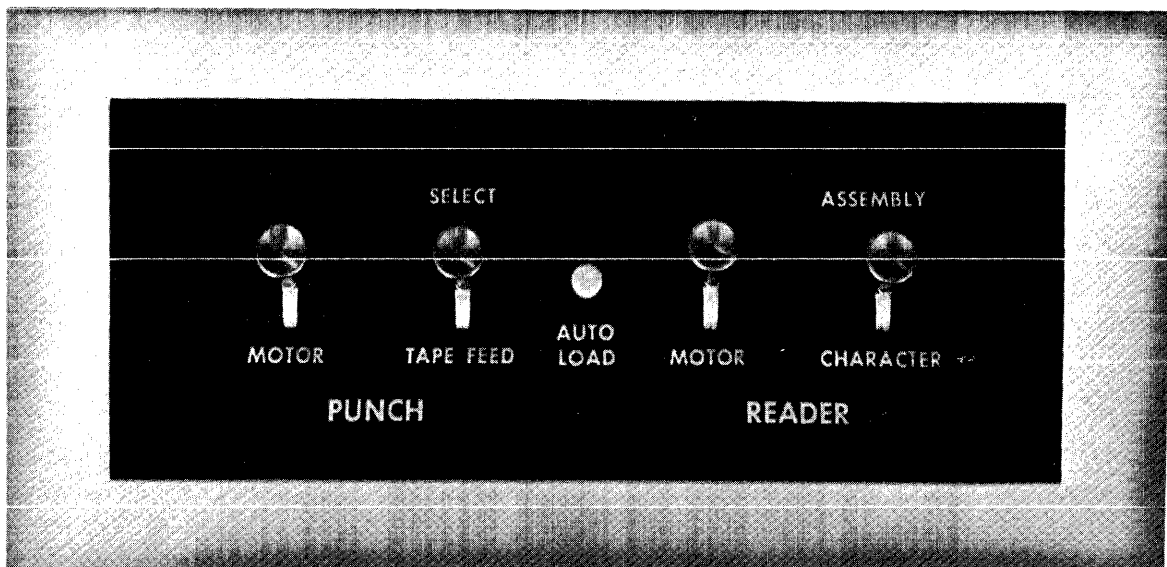

Figure 4-4. Reader, Punch, and Auto Load Controls
- 7) Select the desired mode of operation by the Mode switch (figure 4-4) on the control panel.
- 8) Turn on Reader switch on control panel (figure 4-4).